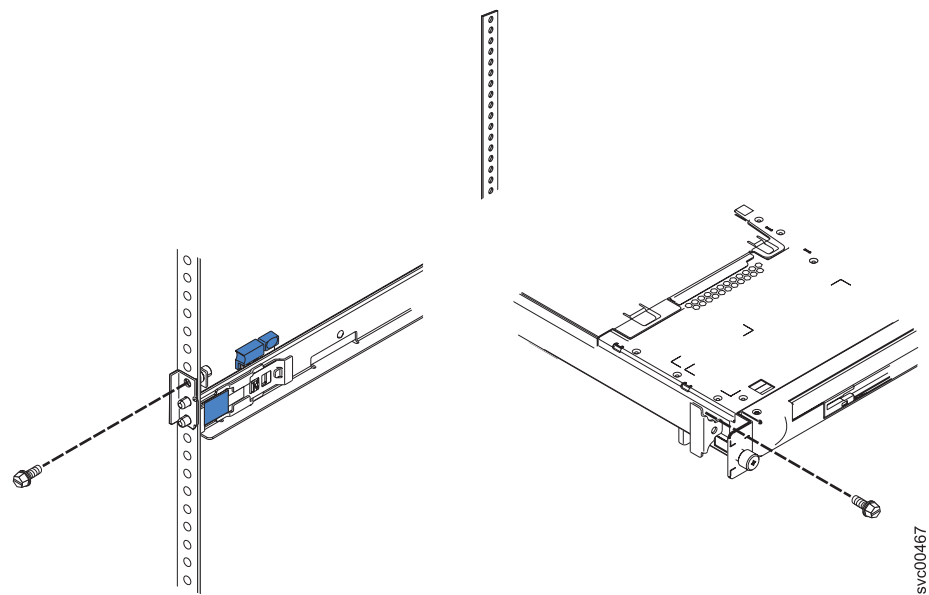

Figure 27. M6 screws that secure the node to the rack
4. Secure the slide rails to the rack, as shown in Figure 27. Slide the node out of the rack 15 cm (6 in) and insert the M6 screws in each slide rail. Push the node back into place.